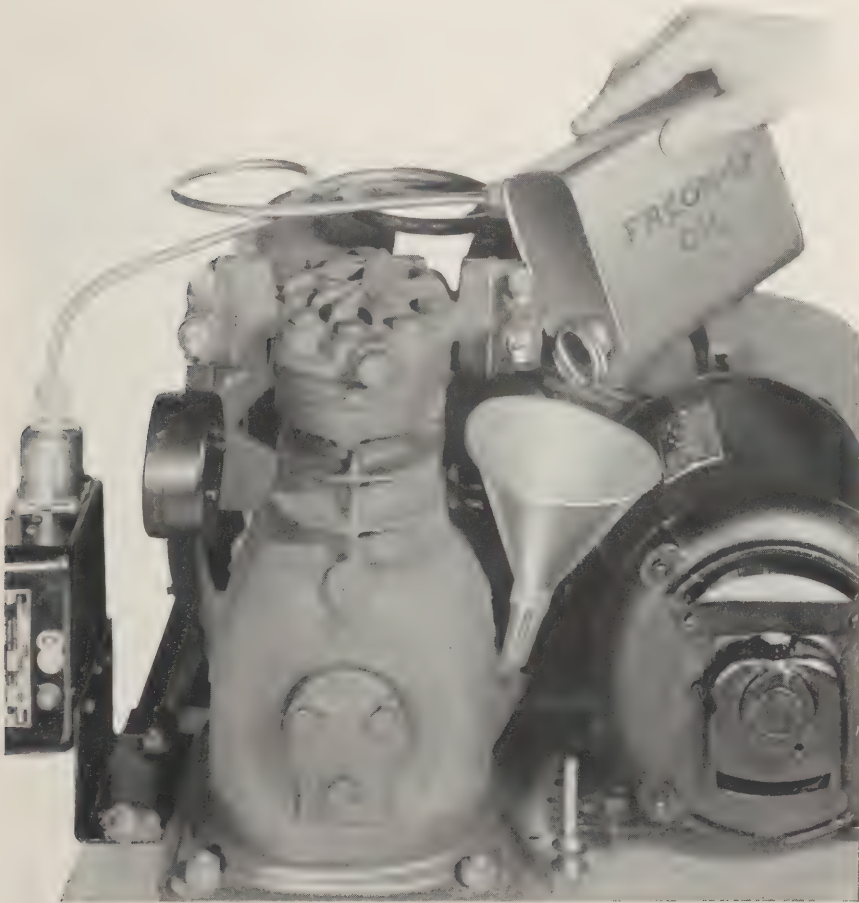

Figure 23. Adding oil to compressor.
a. It is seldom necessary to add oil to the compressor since the oil is in a closed system at a temperature not inductive to carbonization. Only replace oil if lost through leaks or replacement of parts. To add oil to the compressor proceed as follows: (fig 23).